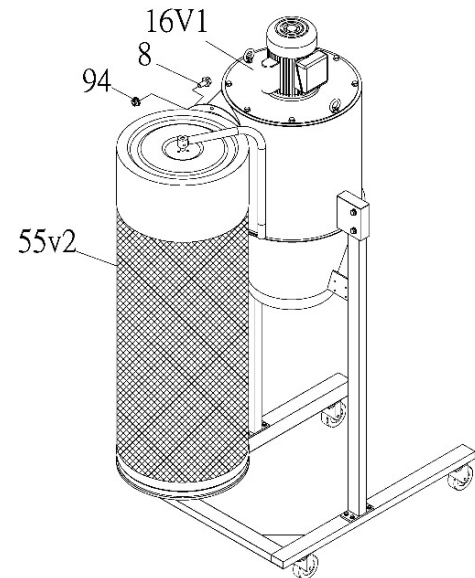

Fig. 6
8. Assemble the Canister Filter (NO.55v2) on the Main Housing (NO.16V1) and tighten with Flange Bolt Screw (NO.8) 5/16"x3/4" and Nut (NO.94) 5/16" See FIG. 6.